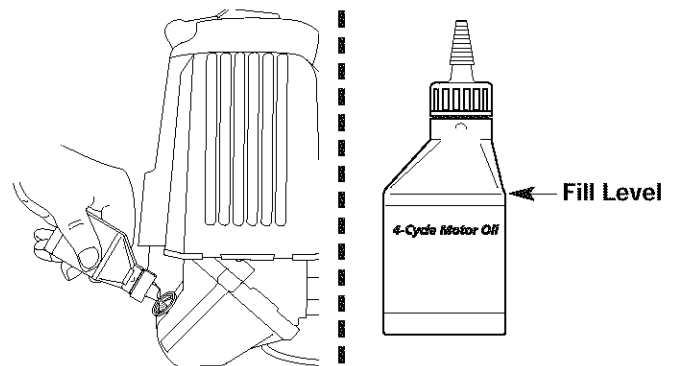

Fig. 34
**NOTE:** Use the bottle and spout saved from initial use to measure the correct amount of oil. The top of the label on the bottle measures approximately 3.4 ounces (100 ml) (Fig. 34). Check the level with the dipstick. If the level is low, add a small amount of oil and recheck. Do not overfill (Fig. 34).